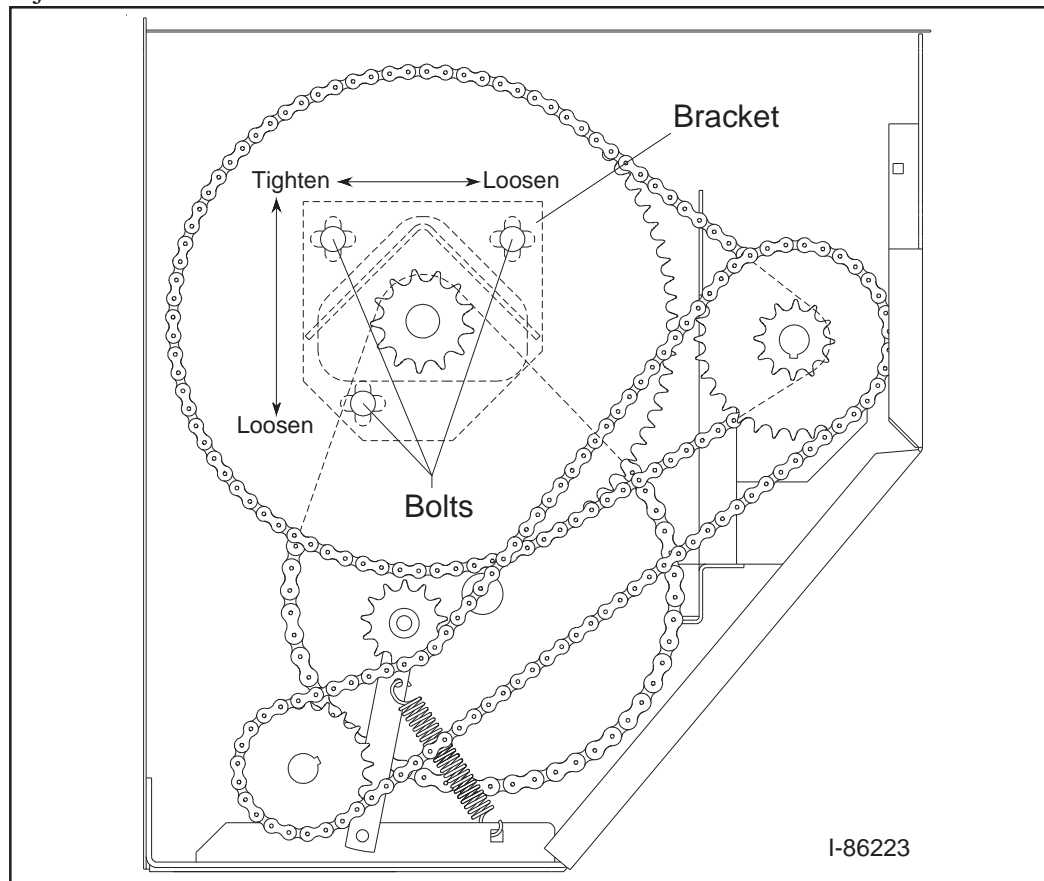

Figure 4B - Adjusting the Drive Chains for Proper Tension
Refer to Figure 4B for an illustration of the drive chains and related components. The chains should be snug, but not too tight. If the chains are too tight, they may cause excessive wear on the gearbox (resulting in premature failure). If the chains are too loose, they can slip and jump sprocket teeth when the spreader is operating with a full load.
- Refer to Figure 4B. Adjust the **bracket position** by loosening the three 1/2" bracket bolts and sliding the bracket forward and/or backward as shown. Note that moving the bracket up and back increases the tension on both chains. *HINT: Using two pry bars to leverage the adjustment bracket (and two chains) for adjustment is helpful.*